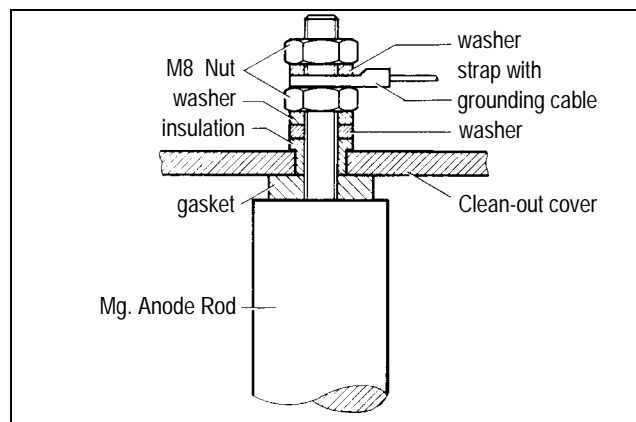

Fig. 14
Tank Models: ST/SE/SF/TT/LT/L/S150-300/SU300 (Fig. 14).
5. Replace used anode with new anode according to Fig. 14.